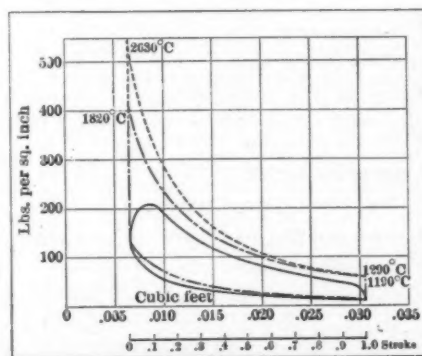

Fig. 31—Showing efficiency with heat supply per cycle of 962 foot pounds
In Figs. 31, 32, 33 are shown for three different amounts of heat supply per cycle, the three indicator diagrams corresponding to—(1) an ideal engine working on the air cycle; (2) an ideal engine working on the variable specific heat cycle, and (3) an indicator diagram
taken from an actual engine, in each case the compression ratio being 4.7. In Fig. 31 the heat supply per cycle is 962 foot-pounds, which corresponds to the use of a mixture containing 17.4 parts of air to 1 of petrol. The following table gives the manner in which the heat supply is utilized in the three cycles: